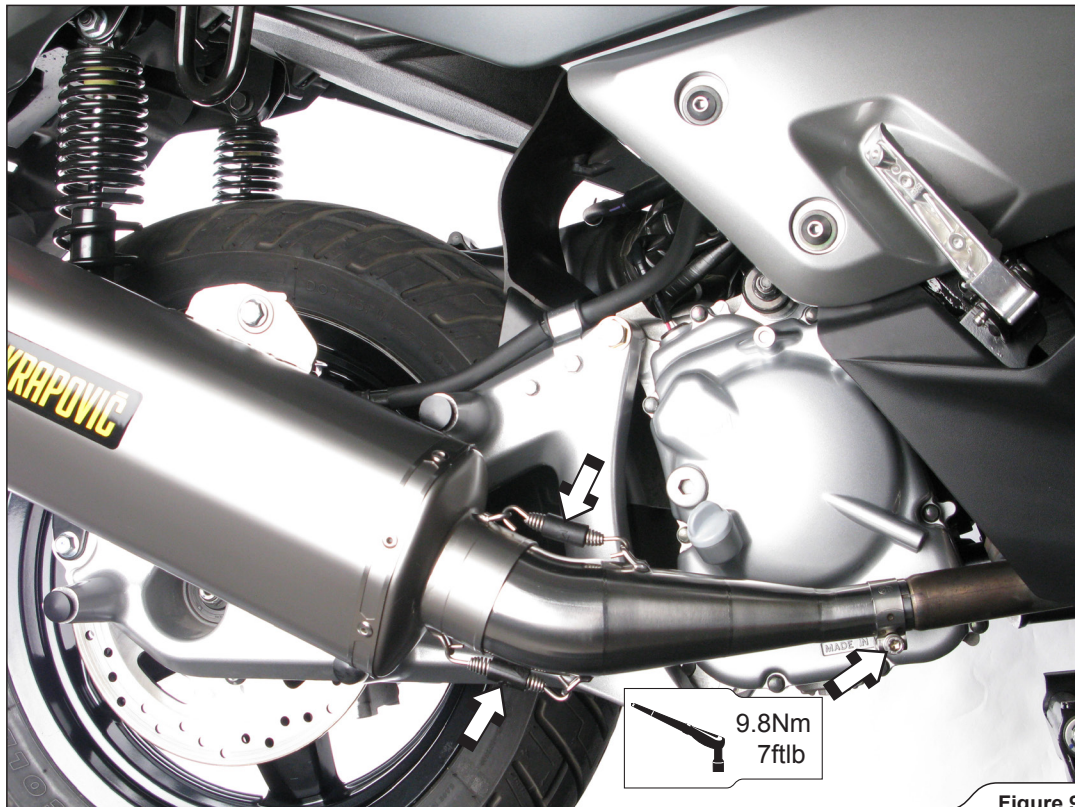

Figure 9
6. Position the muffler correctly and slide it onto the outlet side of Akrapovič link pipe and attach the springs. Align the muffler in respect the motorcycle and tighten the muffler onto the bracket, using Akrapovič bolt, washers and nut. Tighten the metal clamp at the Akrapovič link pipe/stock header pipe joint to a specified torque (**Figure 9, 10**).